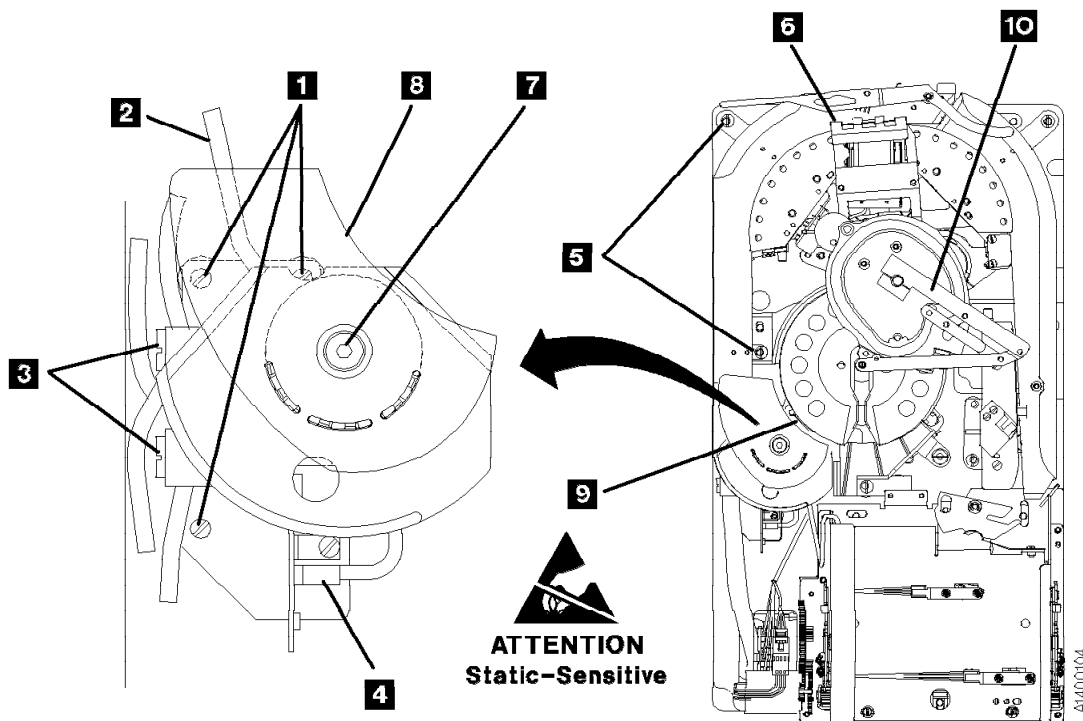

Figure 327. Tension Transducer Assembly
4. See Figure 327. Install the orange head protector P/N 05H4778 on the head **6**.